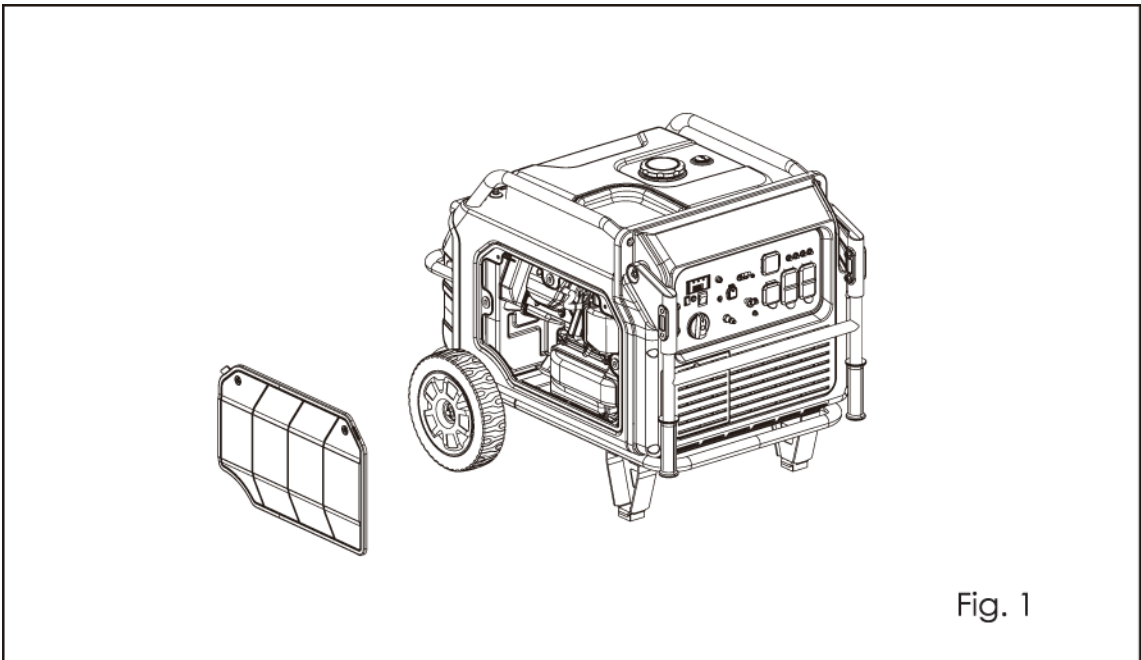

Fig. 1
- Remove the screws retaining the air filter cover (Fig. 1).
1. Rotate the fuel control (Fig. 1) to the desired fuel type.